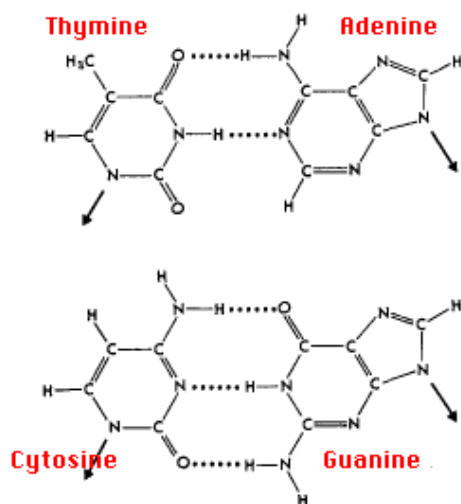

Figure 1 – DNA base pairing
DNA contains the genetic instructions used in the development and function of all known living organisms. The information in DNA is stored as a code made up of four chemical bases: adenine (A), guanine (G), cytosine (C), and thymine (T). The order, or sequence, of these bases determines the information available for building and maintaining an organism, similar to the way in which letters of the alphabet appear in a certain order to form words and sentences. DNA bases pair up with each other, A with T and C with G, to form complementary units called *base pairs*. These base pairs are connected by *hydrogen bonds*, shown in Figure 1 as dotted lines. Adenine and thymine form two hydrogen bonds, while guanine and cytosine form three hydrogen bonds. This means that the strength of the interaction between guanine and cytosine is greater than that between adenine and thymine.